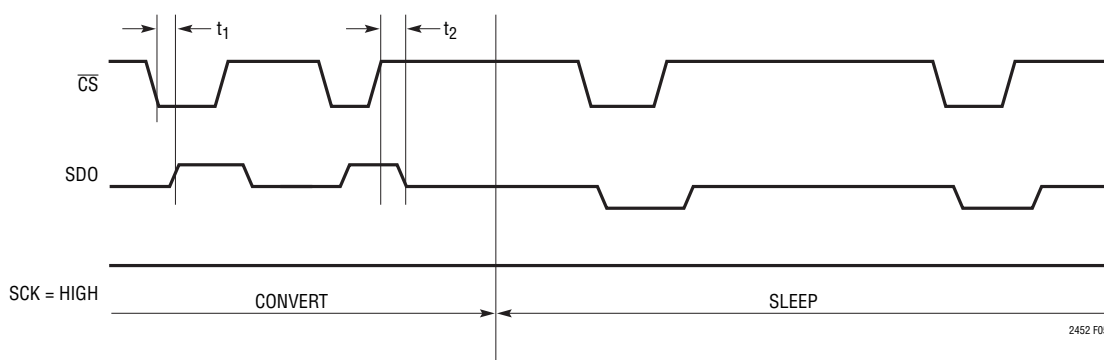

Figure 5. Conversion Status Monitoring Mode
**Note 8:** See Figure 5.
For certain applications, the user may wish to monitor the LTC2452 conversion status. This can be achieved by holding SCK HIGH during the conversion cycle. In this condition, whenever the  $\overline{CS}$  input pin is pulled low ( $\overline{CS} = \text{LOW}$ ), the SDO output pin will provide an indication of the conversion status. SDO = HIGH is an indication of a conversion cycle in progress while SDO = LOW is an indication of a completed conversion cycle. An example of such a sequence is shown in Figure 5.